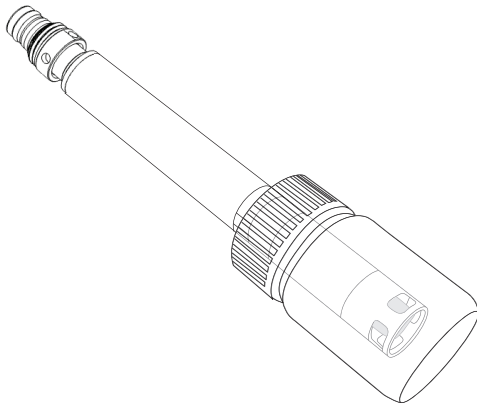

Figure 77 ISE long-term storage
3. Install the bottle o-ring and tighten (Figure 77).